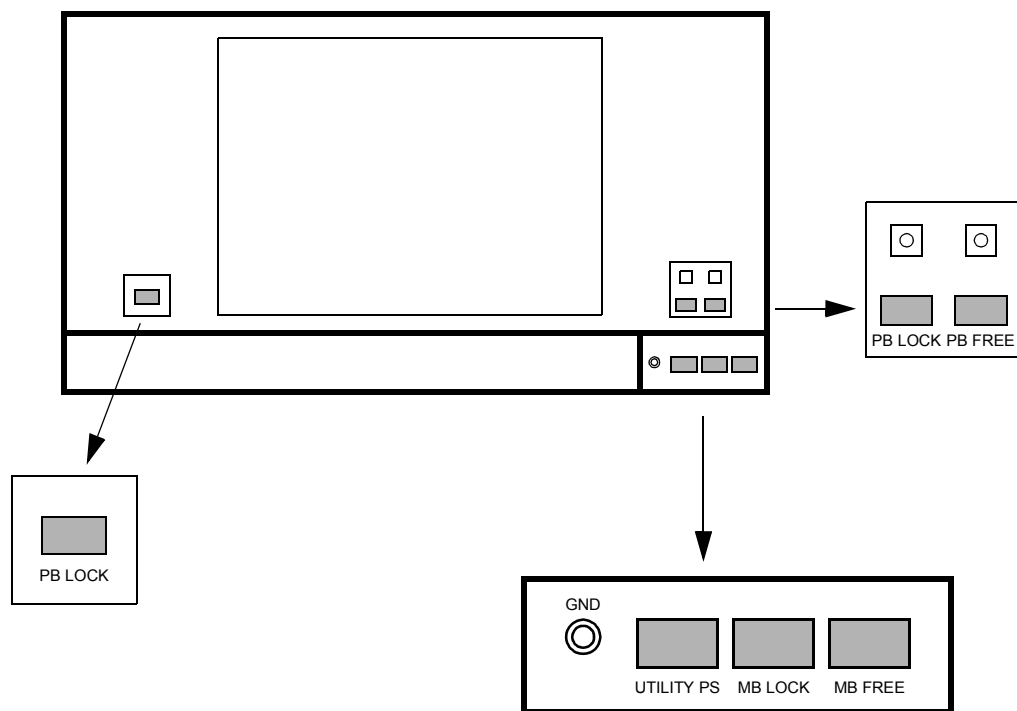

Figure 2-1 Performance Board Switch Panel
- (1) Locking/unlocking the performance board (See Figure 2-1.)
- (2) The utility power supply (See Figure 2-1.)